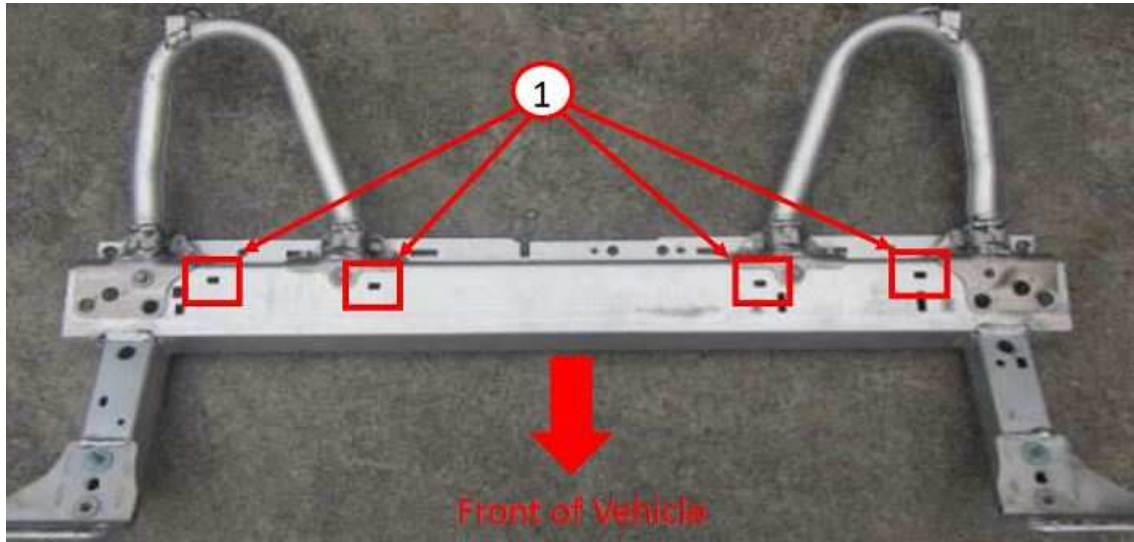

Fig. 9
NOTE: When removing the metal fasteners of the back trim from the square holes of the seat back crossmember, the holes may be damaged causing the noise due to loose fit of the fasteners (Fig. 9) .
14. Clean and de-grease around the four square holes of the seat back crossmember as shown in (Fig. 9) .